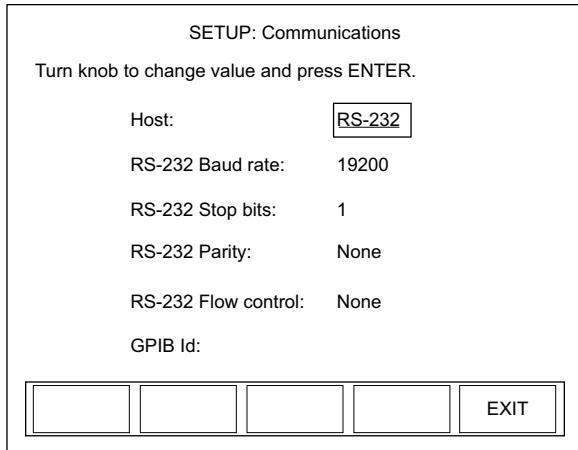

Figure 4-54. SETUP: Communications (Changing the Values)
2. Press the ENTER/SET button to Display the SETUP: Communications screen (Figure 4-54).
Selecting RS-232 or GPIB as the Host value will display the editable fields shown in Figure 4-54. Continue to step 4.